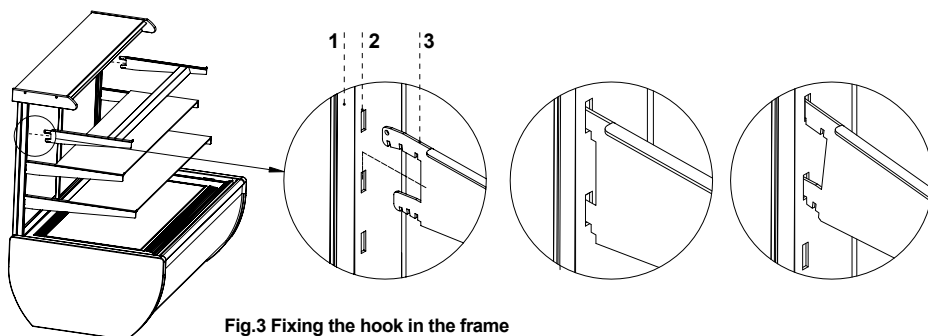

Fig.3 Fixing the hook in the frame
1. (This concerns only “Jamajka” device) Fix hooks with fluorescent lamp in the frame Fig.3 (p.15)